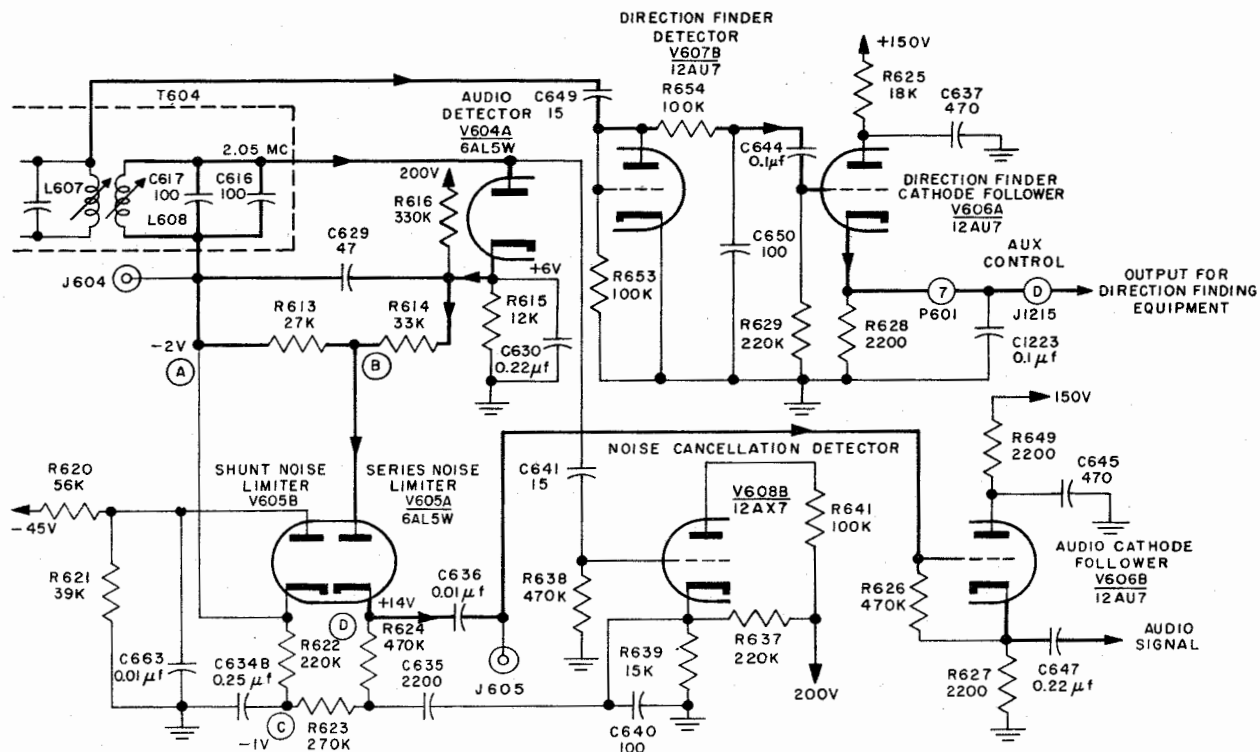

Figure 4-14. Radio Receiver R-278B/GR, Multi-channel Receiver Section, Audio Detector and Noise Limiters, Simplified Schematic Diagram
3. **AUDIO DETECTOR AND NOISE LIMITERS.**—A simplified schematic diagram of the audio detector and noise limiters is shown in figure 4-14. The audio detector and noise limiters employ the following tubes: audio detector V604A, series noise limiter V605A, shunt noise limiter V605B, and noise cancellation detector V608B. The diode detector circuit is a conventional circuit in which V604A operates as a rectifier. The diode load consists of R613 and R614 in series, by-passed by C629. The output of the detector is a negative voltage (normally about -8 volts with respect to cathode of V604A) upon which is superimposed the audio modulation signal.
The operation of this circuit can best be understood by assuming V605A to be an ideal diode; that is, perfectly conducting in one direction and completely non-conducting in the other direction of current flow. With a d-c developed bias of about -2 volts at the output of the detector (point A in figure 4-14), the current flow through the circuit results in d-c potentials at points B, C, and D. Note that point C is bypassed to ground so that its instantaneous potential to ground is not affected by the modulation signal.
**4. AUDIO CATHODE FOLLOWER.**—The audio cathode follower, consisting of V606B, is shown in figure 4-14. The audio output of the noise limiter circuit is coupled to the grid of V606B. The output of this stage is developed across cathode resistor R627 and is transmitted through shielded wire to the QUIETING and FREQUENCY RESPONSE controls.
**5. DIRECTION FINDER CATHODE FOLLOWER.**—The direction finder cathode follower circuit is shown in figure 4-14. By means of this circuit, Radio Receiver R-278B/GR can be used in a direction finding system such as Radio Direction Finder AN/CRD-6.
Referring to figure 4-14, the third i-f signal is detected by direction finder detector V607B and the audio signal developed by this detector is coupled to the grid of V606A by capacitor C644. The output of this cathode follower stage is developed across cathode resistor R628 and is transmitted to pin D of the AUX CONTROL connector.
- (1) diode detector tube V604 is not conducting, so there is no voltage developed across diode load R613 (see figure 4-14),
- (2) the voltage impressed on the grid of V608A is about 6 volts as determined by bleeder R616 and R615, and
- (3) V608A is conducting, causing a voltage drop across R644 that makes the grid of V609 negative and V609 is virtually cut-off because of this biasing voltage.